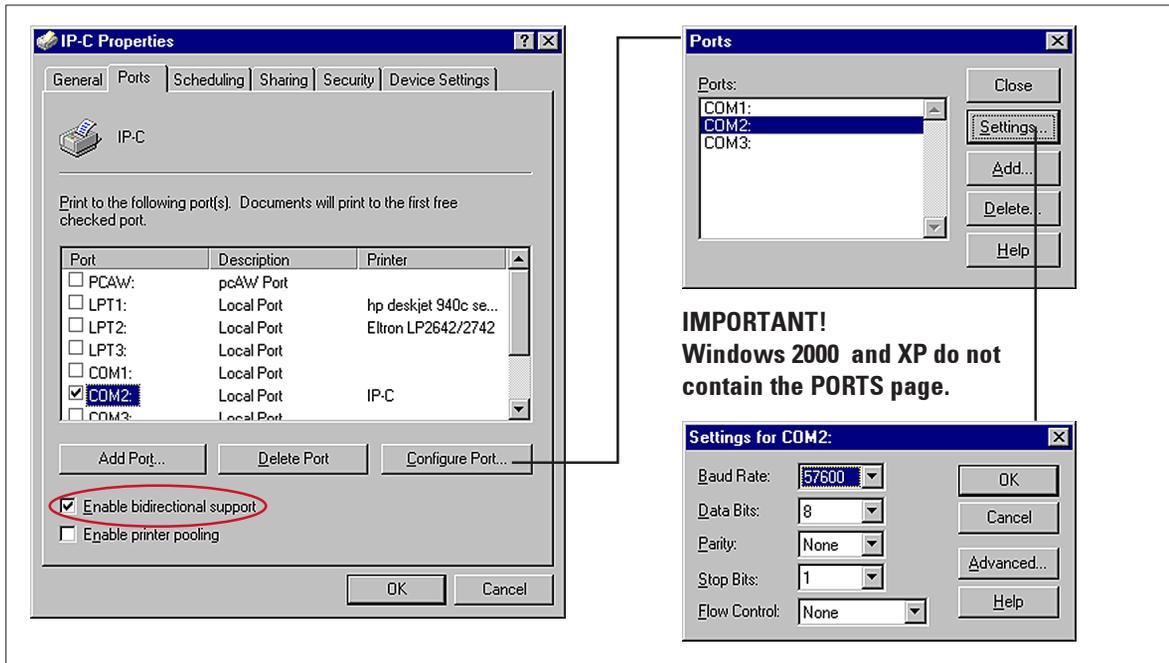

Fig. 31
5. Click on **CONFIGURE PORT** to open the **PORTS** dialog box. Select the corresponding port and click on **SETTINGS**. The **SETTINGS FOR ...** dialog box opens up. Set **BAUD RATE** to 57600. Leave all other settings as shown in Fig. 31.